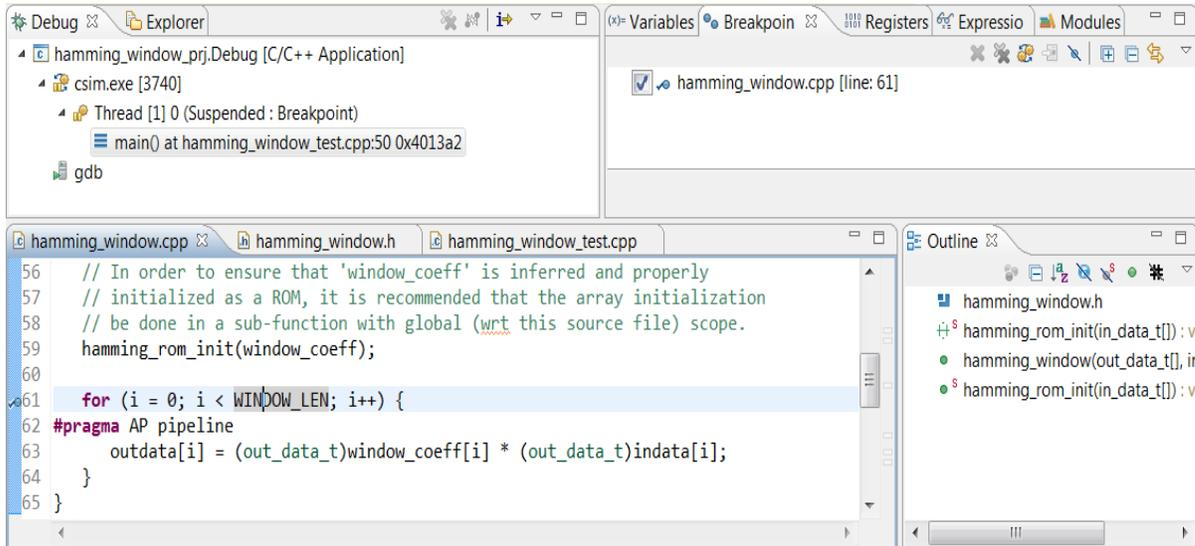

Figure 3-19: Debug Environment for C Validation Lab 3
- Set a breakpoint at line 61 in the `hamming_window.cpp` file as shown in Figure 3-19.